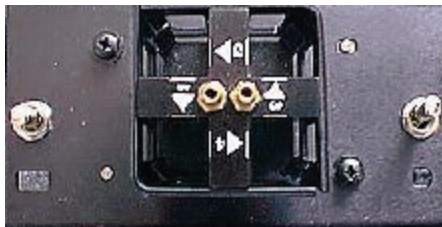

Figure 26 Positioning the cellchanger
2. Turn the cellchanger to appear as shown in Figure 26.